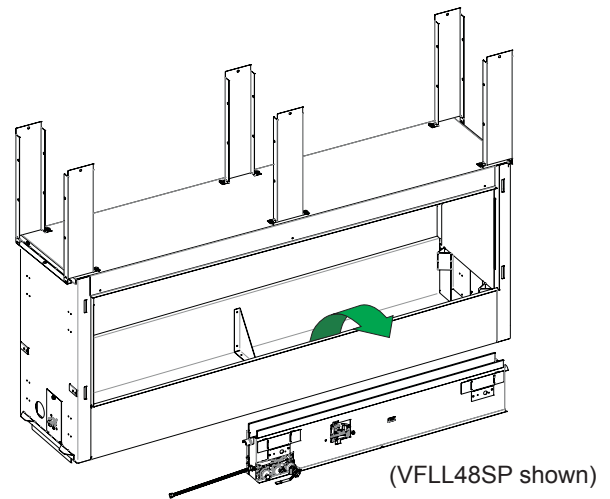

Figure 10
1. To access and install the junction box and wiring, begin by removing the burner cover. Lift it straight up off of the burner and set aside. **See Figure 10.** For VFLL48SP90 Units: Remove the heat shield and disconnect the wire to the switch on the heat shield.
- 10b. For VF(L,Z)48SP90 fireplaces, set receiver for "remote". See page 30. Set switch on heat shield to standing pilot or intermediate pilot. **See Figure 62**. Verify that the heat shield is back in place. **See Figure 10**.
11. Replace burner cover. **See Figure 10**.